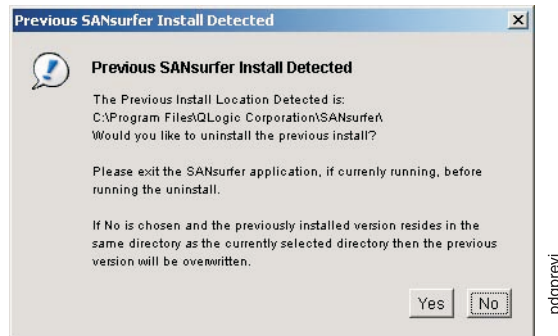

Figure 6. Previous SANsurfer Install Detected message
6. If there is a previous version of the SANsurfer application on the system, the previous SANsurfer Install Detected message window opens as shown in Figure 6 on page 45.